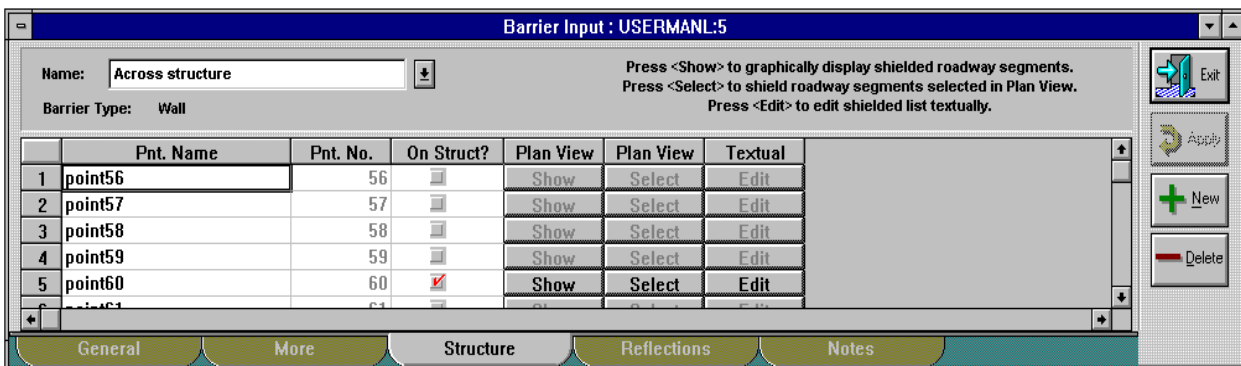

Figure 36. Barrier input: Structure tab.
2. Select **Structure** on the barrier input dialog. "On Struct?" will be checked for each barrier segment that is on structure (see Figure 36).